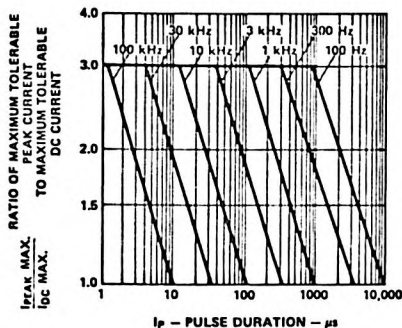

Figure 5. Maximum Tolerable Peak Current vs. Pulse Duration. (I_{DC} MAX as per MAX Ratings.)
- See Figure 5 to establish pulsed operating conditions.